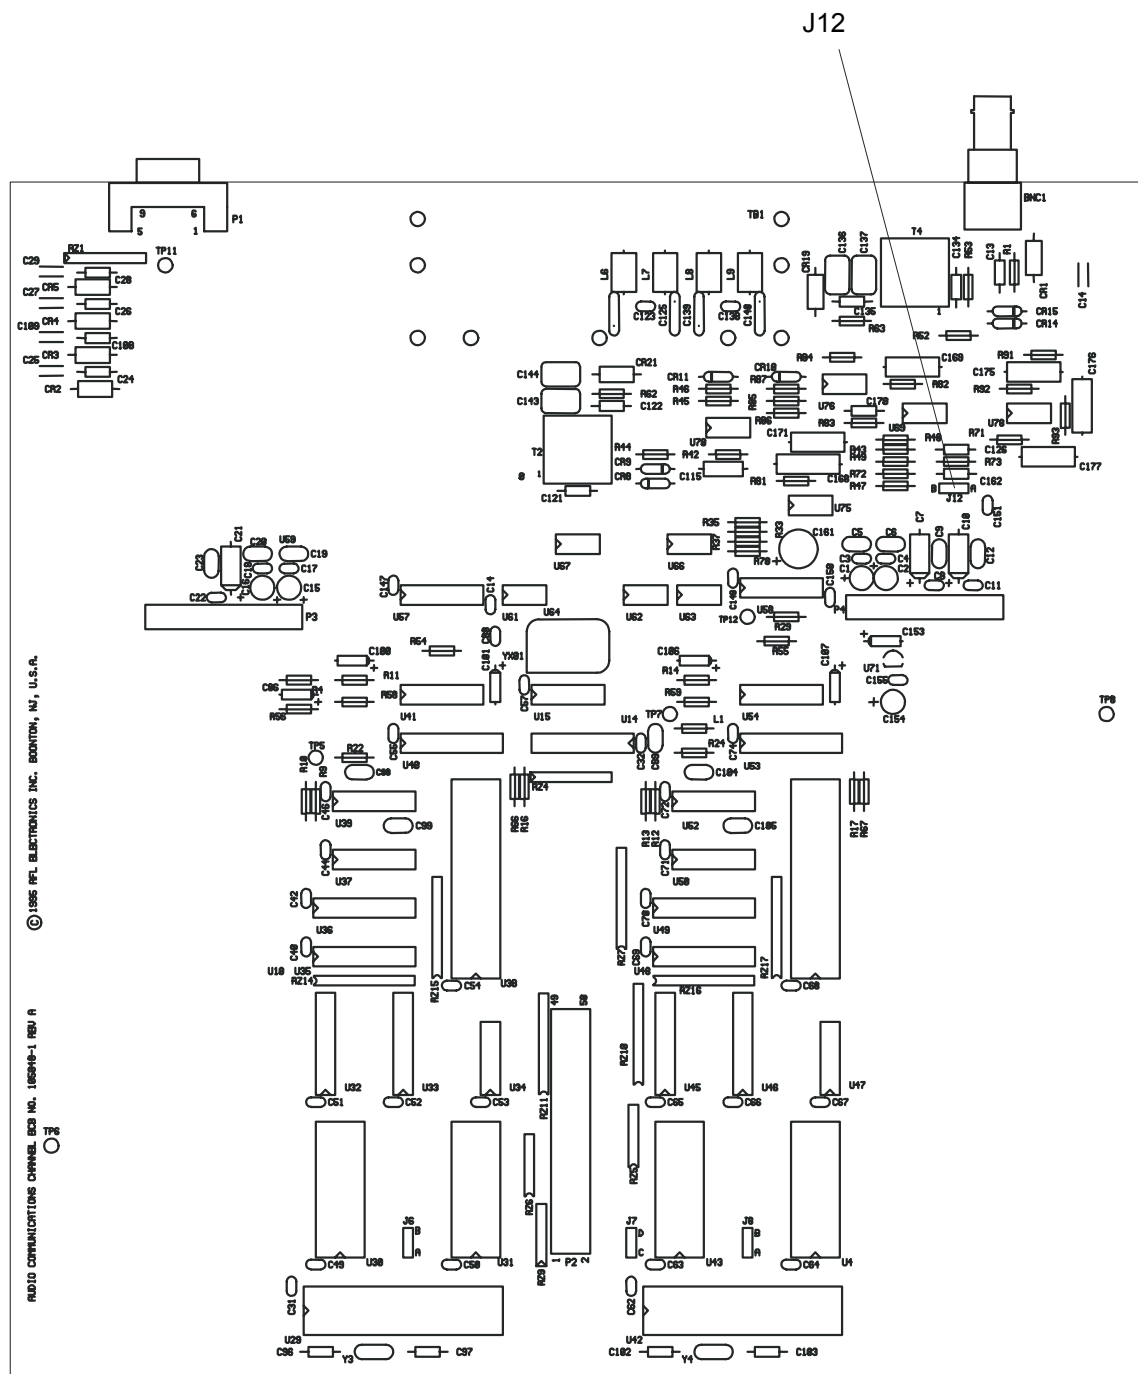
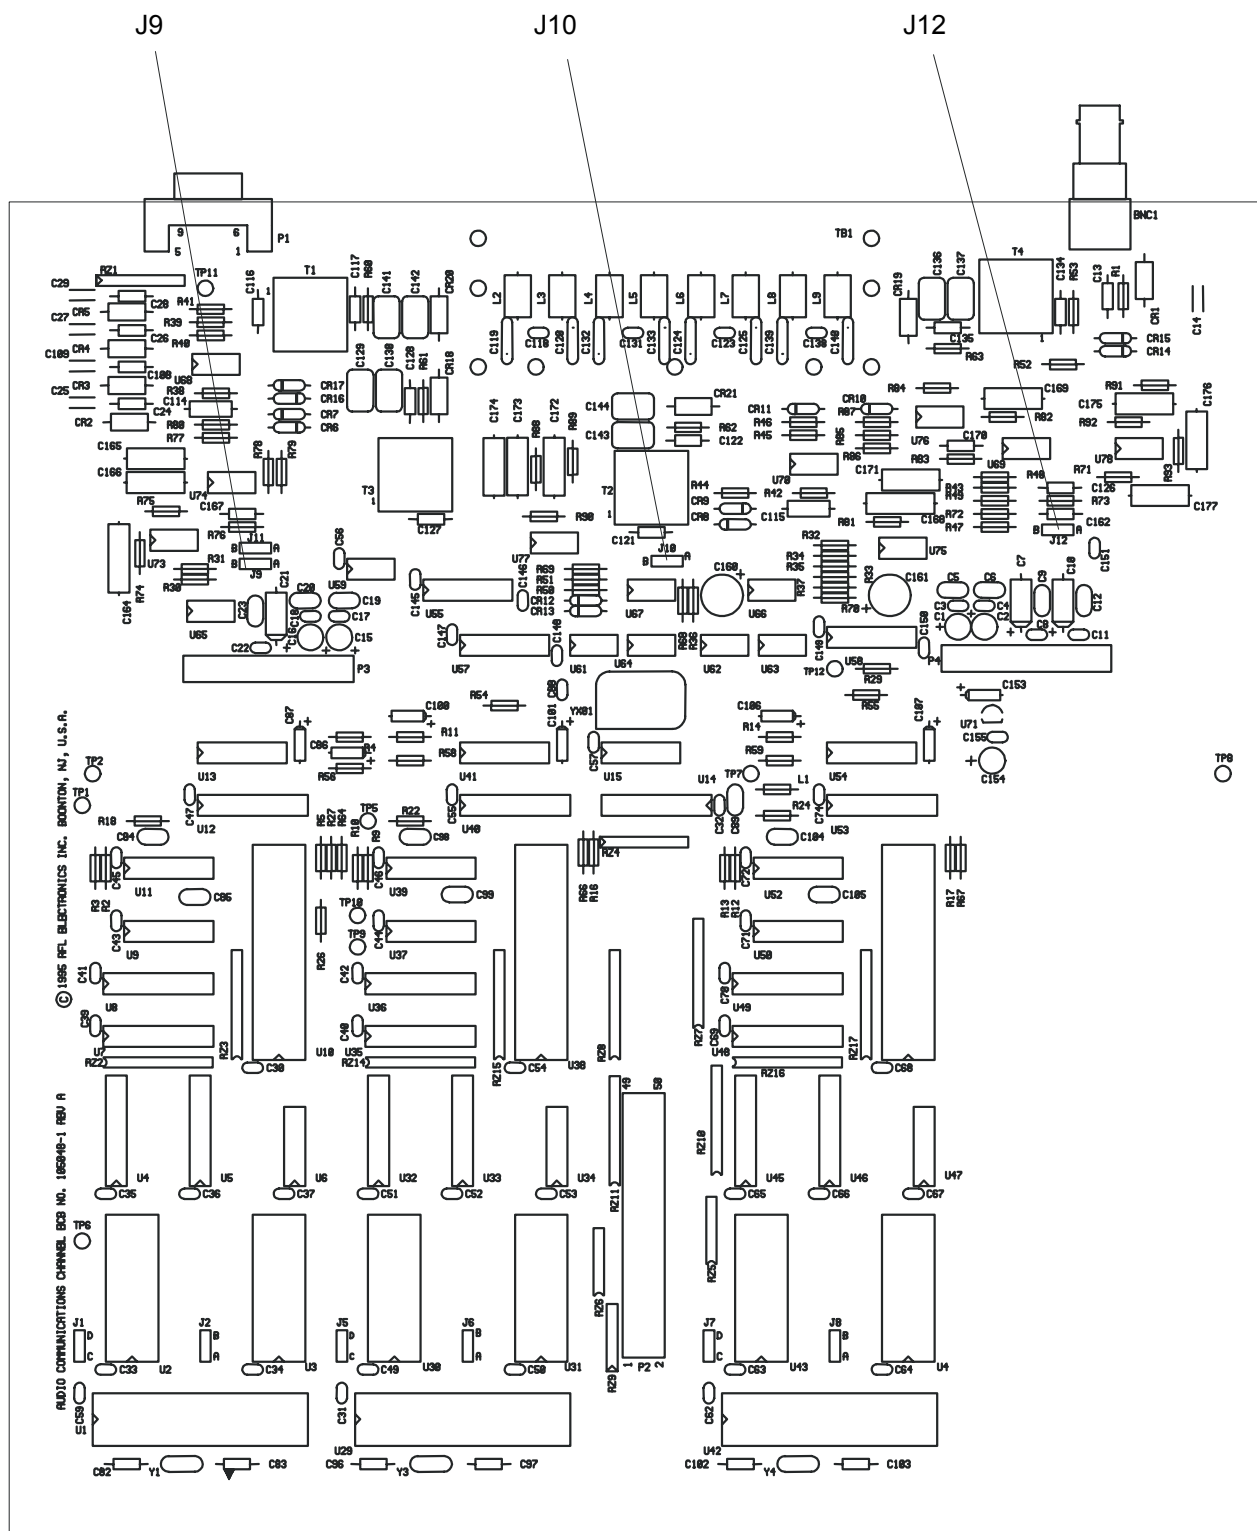

Figure 3-16. Location of jumper on the two-tone narrow band Audio Communications Module
Figure 3-17. Location of jumpers on the three-tone narrow band Audio Communications Module
There are two versions of the wide band Audio Communications Module. Each version uses the same basic printed circuit board but only certain portions of each board are populated with components. The two-tone version of the module has five programmable jumpers as shown in Figure 3-16. The four-tone version of the module has eleven programmable jumpers as shown in Figure 3-17. Each version can be supplied with screw type terminal blocks or compression type terminal blocks. Refer to Table 3-4 for additional information.
* Parameter 061 as shown in Figure 5-1 must be set to match the J10 jumper setting on the Audio Communications module (See Figures 3-16 for location).